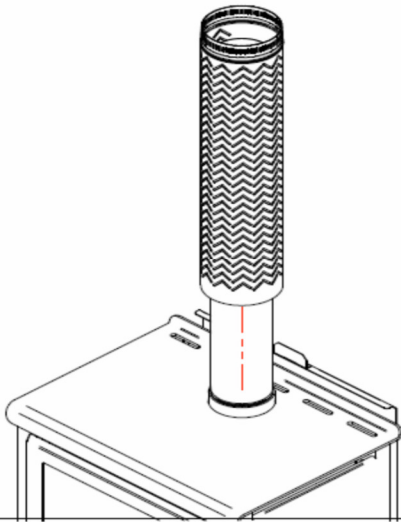

Figure 6
6. Hang the flue shield assembly onto the hooking bracket behind the flue pipe as shown in Figure 6.